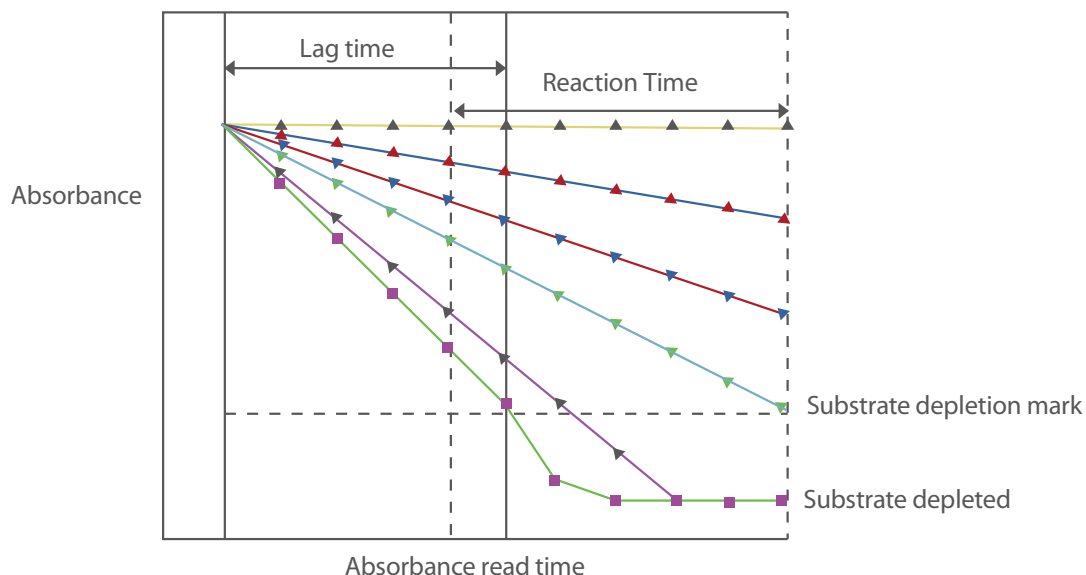

Figure 1: The principle of enzyme linear extension function
The basic principle of enzyme linear extension function is that when the reaction is over, the system will search for the absorbance points with linear change during the reaction time according to substrate depletion limit. If the number of absorbance points with linear change in reaction time (N) is 1 or 0, the system will start linear extension function and find the linear absorbance points without substrate depletion in lag time period, then calculate  $\Delta A/\text{min}$  of these points and report calculated result (Figure 1). If this calculated result exceeds reagent linearity upper limit, a ">" mark will be given. If the number of absorbance points with linear change in lag time (N) is still 1 or 0, the result cannot be calculated and an "ENC" mark will be given to indicate this error. Then the system will trigger auto-dilution and rerun the sample to report a normal result.